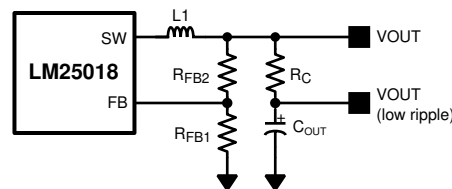

图 7-1. Low Ripple Output Configuration
This regulator regulates the output voltage based on ripple voltage at the feedback input, requiring a minimum amount of ESR for the output capacitor (C_{OUT}). A minimum of 25 mV of ripple voltage at the feedback pin (FB) is required for the LM25018. In cases where the capacitor ESR is too small, additional series resistance can be required (R_{C} in 图 7-1).
For applications where lower output voltage ripple is required, the output can be taken directly from a low ESR output capacitor, as shown in 图 7-1. However, R_{C} slightly degrades the load regulation.